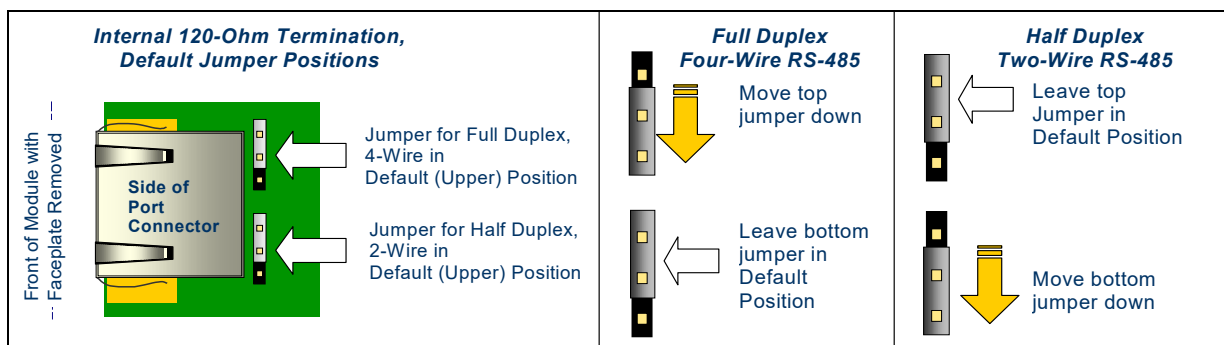

Figure 374: Using the Module Internal Jumpers & Built-in 120Ω Resistor for Termination
- B. Using an external jumper wire. To use this method, do NOT change the positions of the internal jumpers as shown in Figure 374 above. Instead, connect an external jumper wire across connector pins 3 and 7 for RS-485 4-wire, or across connector pins 1 and 4 for RS-485 2-wire.